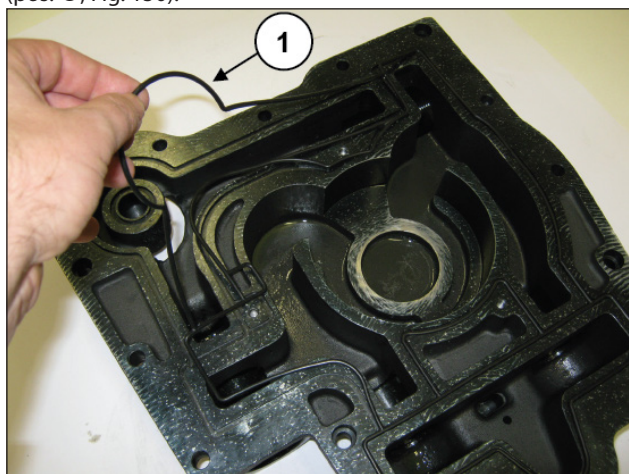

Fig. 150
Insert the shaped O-ring in its seat on the lube pump body (pos. ①, Fig. 150).